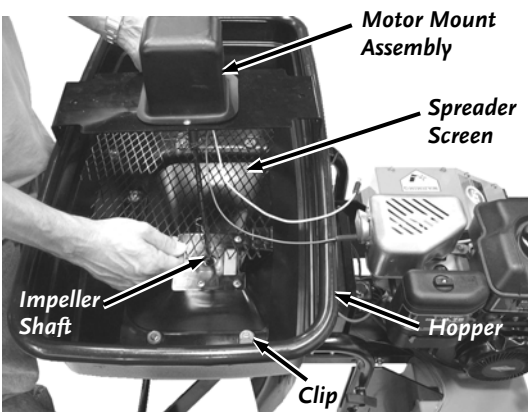

Figure 9
10. Position the Motor Mount assembly with the Spreader Screen into the Hopper and slide the Impeller Shaft through the hole in the bottom of the Hopper (**Figure 9**). Secure the Spreader Screen into the recessed portion of the Hopper by sliding the edge of the Screen under the Clips on both sides.